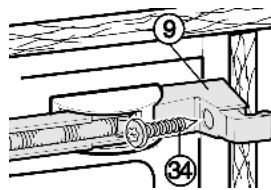

Fig. 32
- ▶ To fix appliance at top: Press appliance firmly against the wall of the unit and fasten it by passing a Spax screw *Fig. 32 (34)* through the turn hinge *Fig. 32 (9)*.